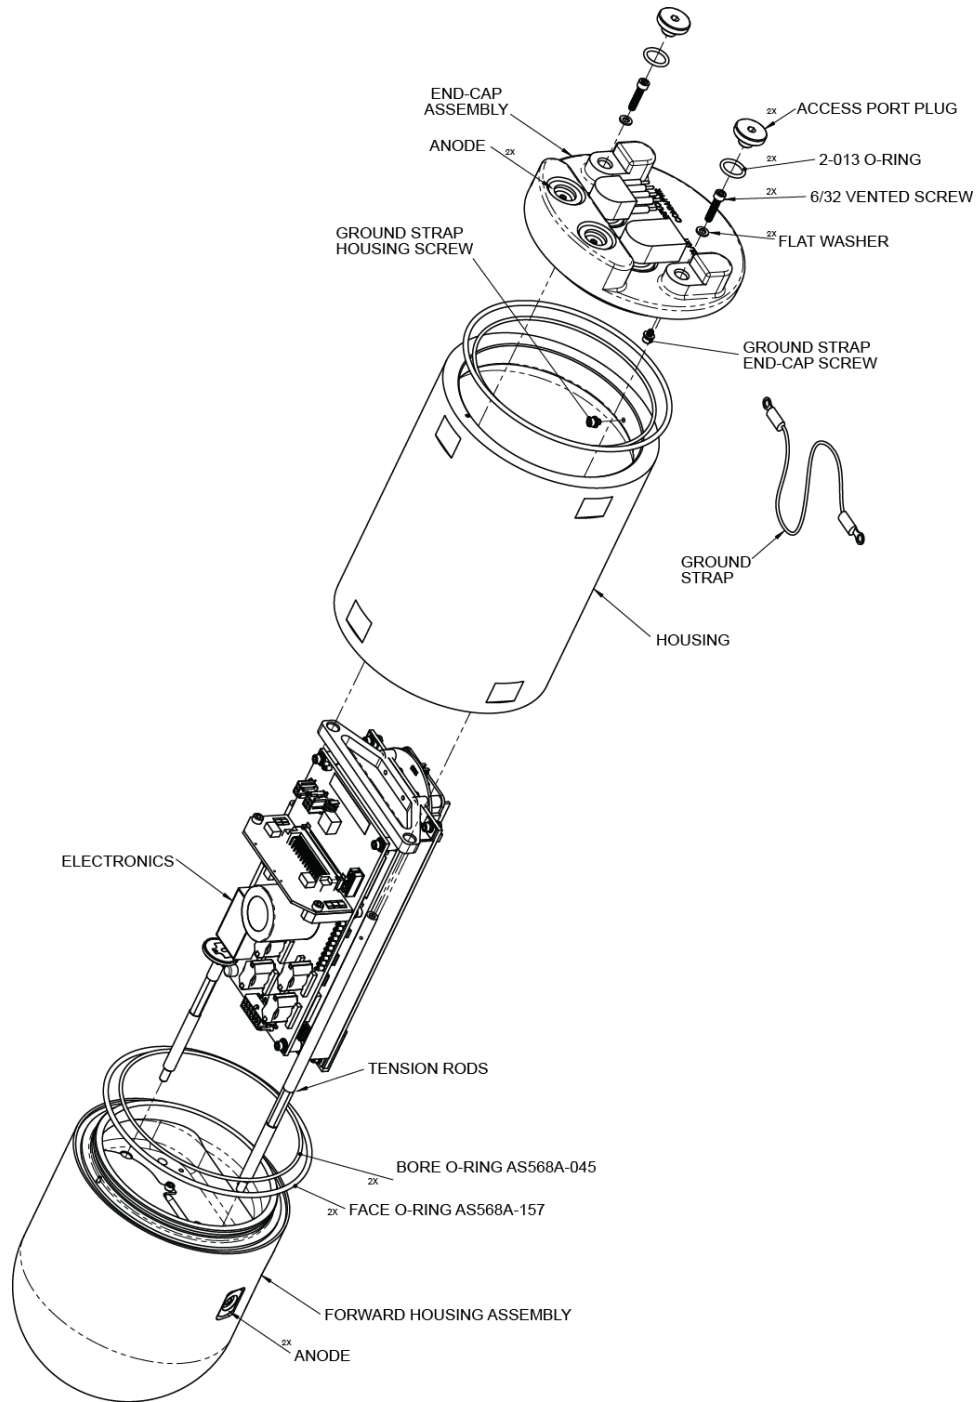

Figure 25. Self-Contained ExplorerDVL Assembly
8. Examine the vented screws and washers for corrosion; replace if necessary. Figure 25 shows the assembly order of the end-cap/housing mounting hardware. All the hardware items are needed to seal the ExplorerDVL properly.